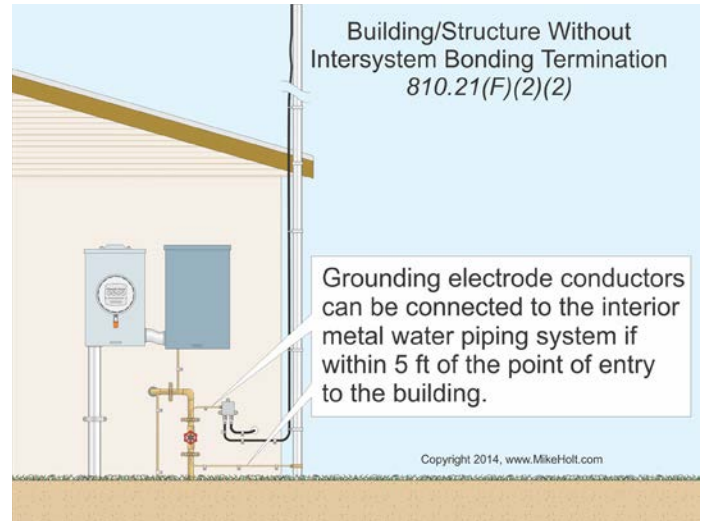

Figure 810-17
- (1) Building grounding electrode system [250.50].
- (2) Interior metal water piping system, within 5 ft from its point of entrance [250.52(A)(1)]. Figure 810-17
- (3) Accessible means external to the building, as covered in 250.94.
- (4) Nonflexible metallic service raceway.